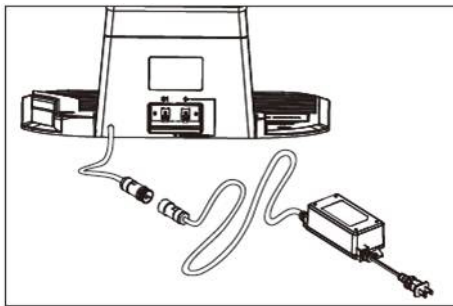

Fig.20
6. Connect the charger to the charging station. Align the notch on the power cord connector with the groove on the adaptor connector (Fig.20).